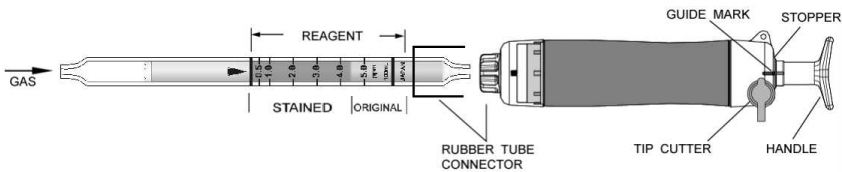

Fig.1
- ② Insert the detector tube into the aspirating pump securely as shown in Fig.1. (Arrow mark shall point to the pump.)
- ③ Align the guide marks on the shaft and stopper of the aspirating pump.
- ④ Pull the pump handle at a full stroke until it locks and wait for 1 minute or until the completion of sampling is confirmed with the flow indicator of the pump. (See descriptions about the flow indicator in the instruction manual of the pump.)
- ⑤ On completion of sampling, read the scale at the maximum point of the stained layer.
- ⑥ When the concentrations is over the scale range, a 1/2 pump stroke can be used to determine this higher concentration.
- ⑦ When the concentration is below the scale range, 5 pump strokes can be used to determine this lower concentration.